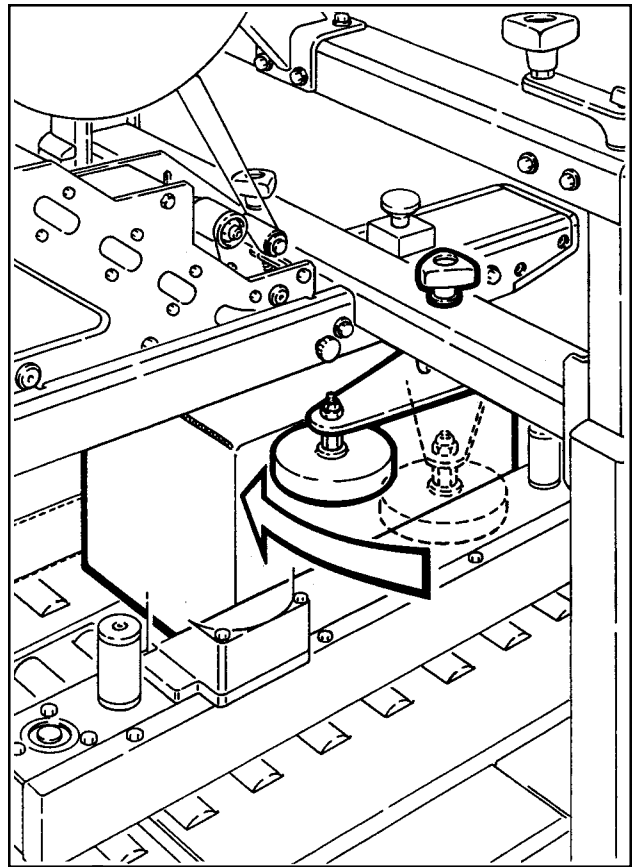

Figure 3-4 – Top Flap Compression Rollers
3. POSITION COMPRESSION ROLLERS (Figure 3-4)